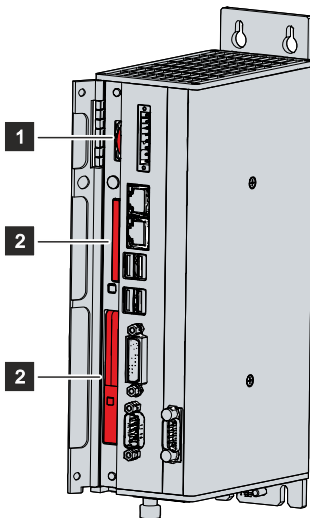

Fig. 23: Battery and storage media
You now have access to the battery (1) and storage media (2) (see fig. 23).